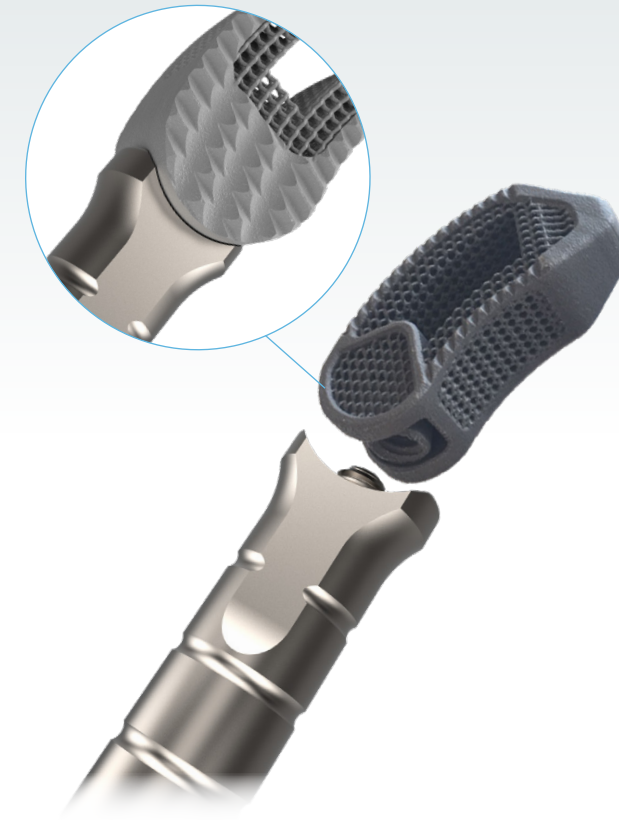

Figure 12
- Place the end of the implant into the circular cup (Figure 12) and thread into the implant by turning the knob on the threaded shaft component clockwise (Figure 13). Confirm the implant is securely attached but DO NOT overtighten.